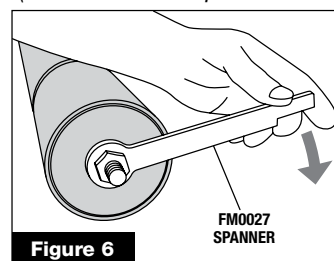

Figure 6
- 15 Screw the compression nut firmly against the element assembly (**figure 6**), using the correct spanner (Part No FM 0027).